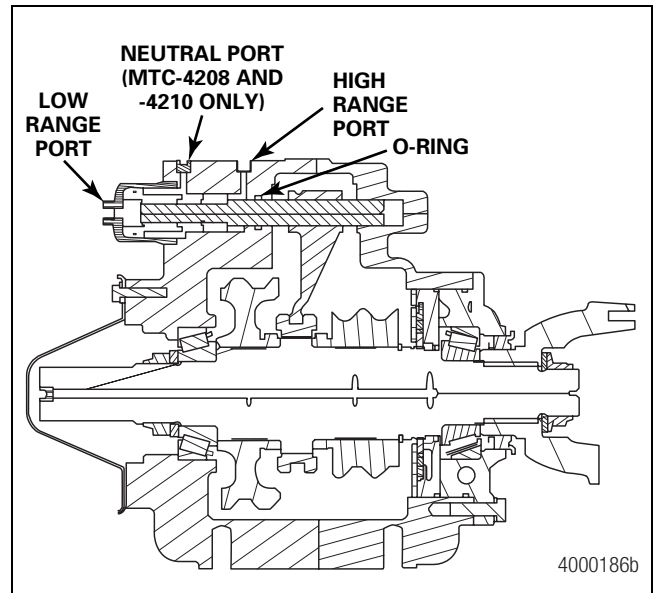

Figure 6.6
16. Lubricate and install the O-ring into the rear cover push rod journal. Use a light coat of lithium-based grease, Meritor specification O-688, prior to cover installation. Figure 6.6.